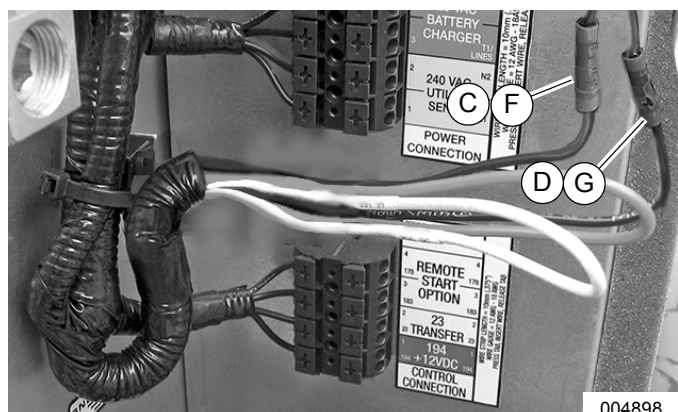

Figure 10 - Crimped Wires at Harness
8. See **Figure 10**. Crimp an insulated barrel splice crimp connector (F—supplied) to stripped end of 36 in. (91 cm) wire (C). Crimp open end of barrel splice connector to one of the stripped black wires.